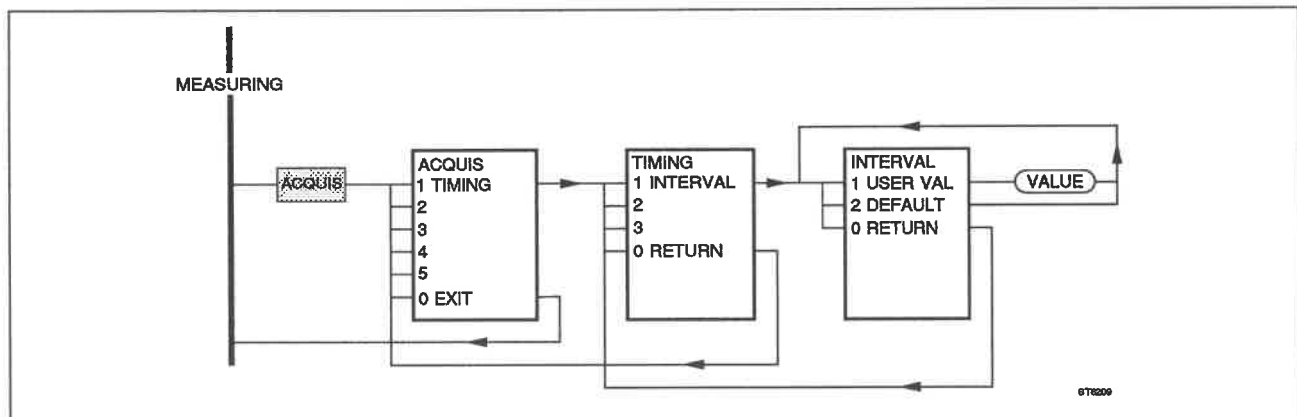

Fig. 4.25 Trigger interval menu.
- press **ACQUIS** to invoke the ACQUIS menu (Fig. 4.25).